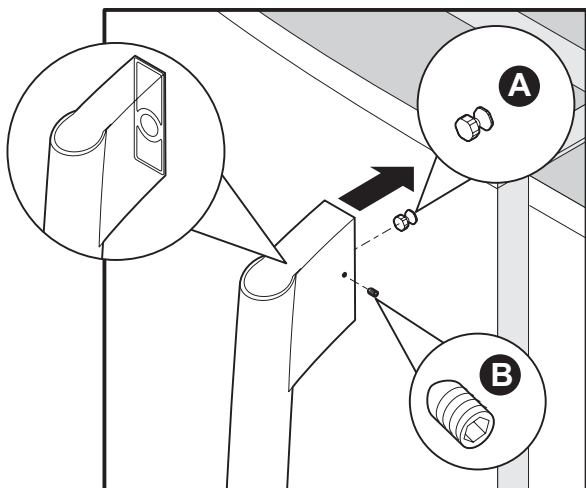

Figure 1
- 2 Position freezer handle end caps over upper and lower pre-installed shoulder bolts (A) that are fastened into door, ensuring the holes for the set screws are facing towards the refrigerator door. (See Figure 1.)
- 3 While holding handle firmly against door, fasten upper and lower Allen set screws (B) with supplied Allen wrench. (See Figure 1.)